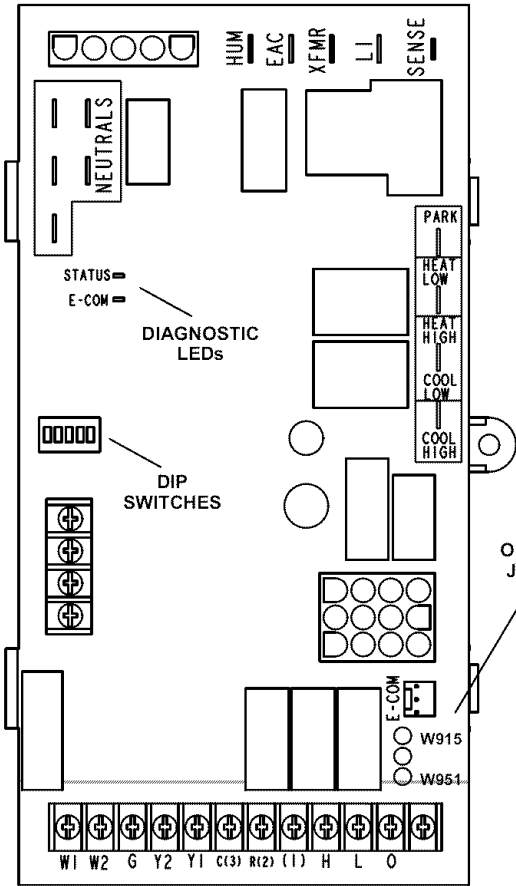

FIGURE 55
- 7 - One line voltage "HUM" 1/4" spade terminal is provided on the furnace control board. Any humidifier rated up to one amp can be connected to this terminal with the neutral leg of the circuit being connected to one of the provided neutral terminals. See figure 55 for control board configuration. This terminal is energized in the heating mode when the combustion air inducer is operating.
- 8 - One line voltage "EAC" 1/4" spade terminal is provided on the furnace control board. Any electronic air cleaner rated up to one amp can be connected to this terminal with the neutral leg of the circuit being connected to one of the provided neutral terminals. See figure 55 for control board configuration. This terminal is energized when the indoor blower is operating.
- 9 - One 24V "H" terminal is provided on the furnace control board terminal block. Any humidifier rated up to 0.5 amp can be connected to this terminal with the ground leg of the circuit being connected to either ground or the "C" terminal. See figure 55 for control board configuration.